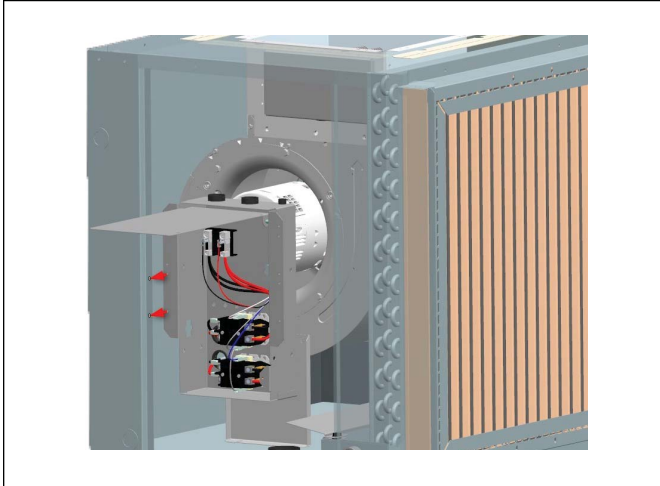

Figure 28
2. Align the EH control Box up with the mounting holes located on corner post opposite from Air Coil. Figure 28 shows mounting for right hand configuration.